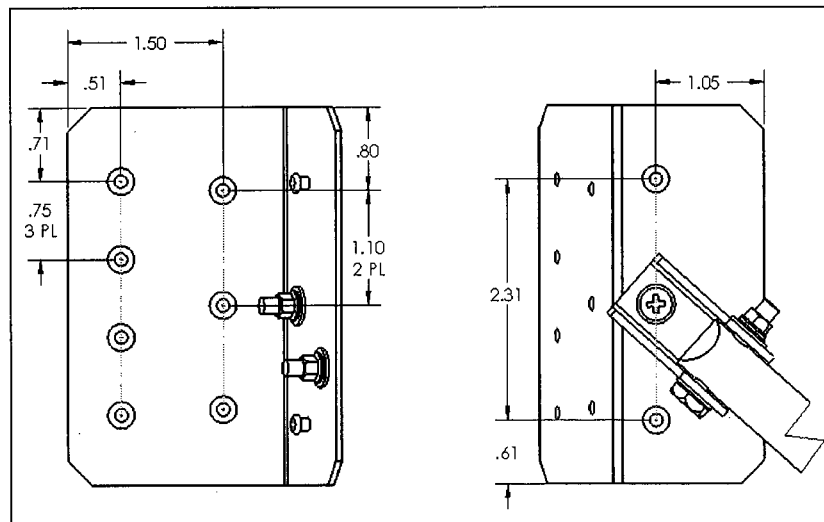

Figure 5.12: Angle Rivet Locations
- 5.27 Locate two Angles (F/N 22) and corresponding Spacers (F/N 29) as shown and drill rivet locations and cleco in place, as shown in Figure 5.12.